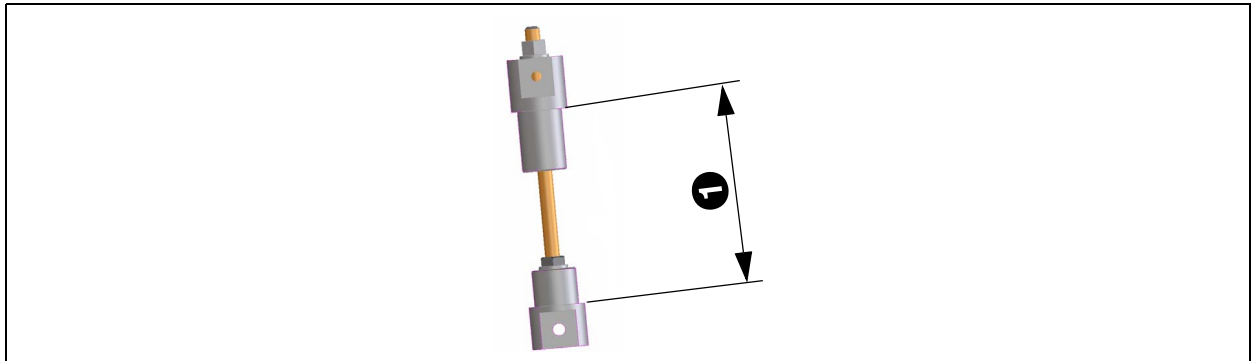

Fig. 82 - Setting the spring-tensioner length
When mounted, the spring must have a length of 165 mm (1). See fig. 82.